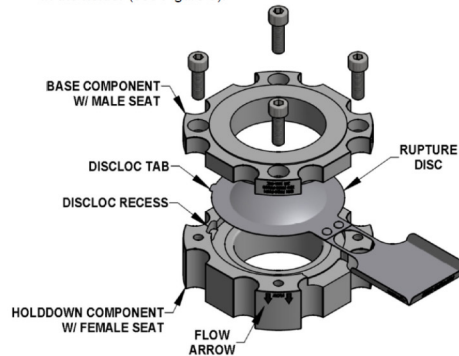

Figure 6 - Pre-torqueable Holder (TQ+ configuration shown)
- If holder configuration is TQ or TQ+, lubricate uncoated capscrews with a light oil such as SAE grade 20. Lubricate both the threads and the underside of the head. Install lubricated capscrews and tighten until recessed and snug in the holder (see Figure 6).